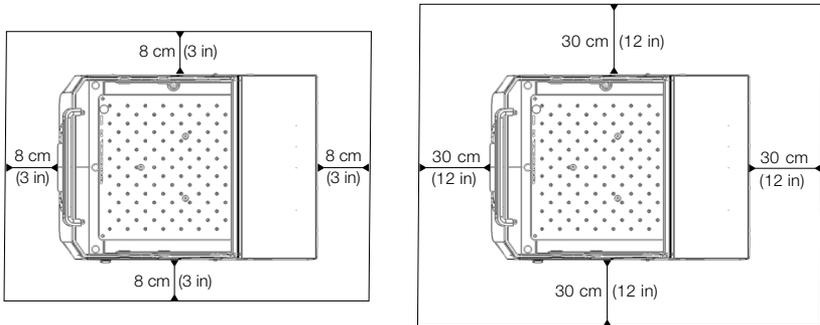

Figure 9: Set Up Clearances for Incubated (left) and Refrigerated Shakers (right); refrigerated with free air above are covered by the left image.
- Solaris 2000 I and 4000 I incubated shakers require a clear area of 8 cm (3 in) on all four sides of the casing, as shown on the left side of Figure 9.
- Solaris 2000 R and 4000 R refrigerated shakers may be operated with a clear area of 8 cm (3 in) on all four sides of the casing if there is **free air space** above their hood, as shown on the left side of Figure 9.
- If the **air space above** the Solaris 2000 R and 4000 R refrigerated shaker **is obstructed**, the clearance around the casing must be increased to 30 cm (12 in) on all four sides, as shown on the right side of Figure 9.